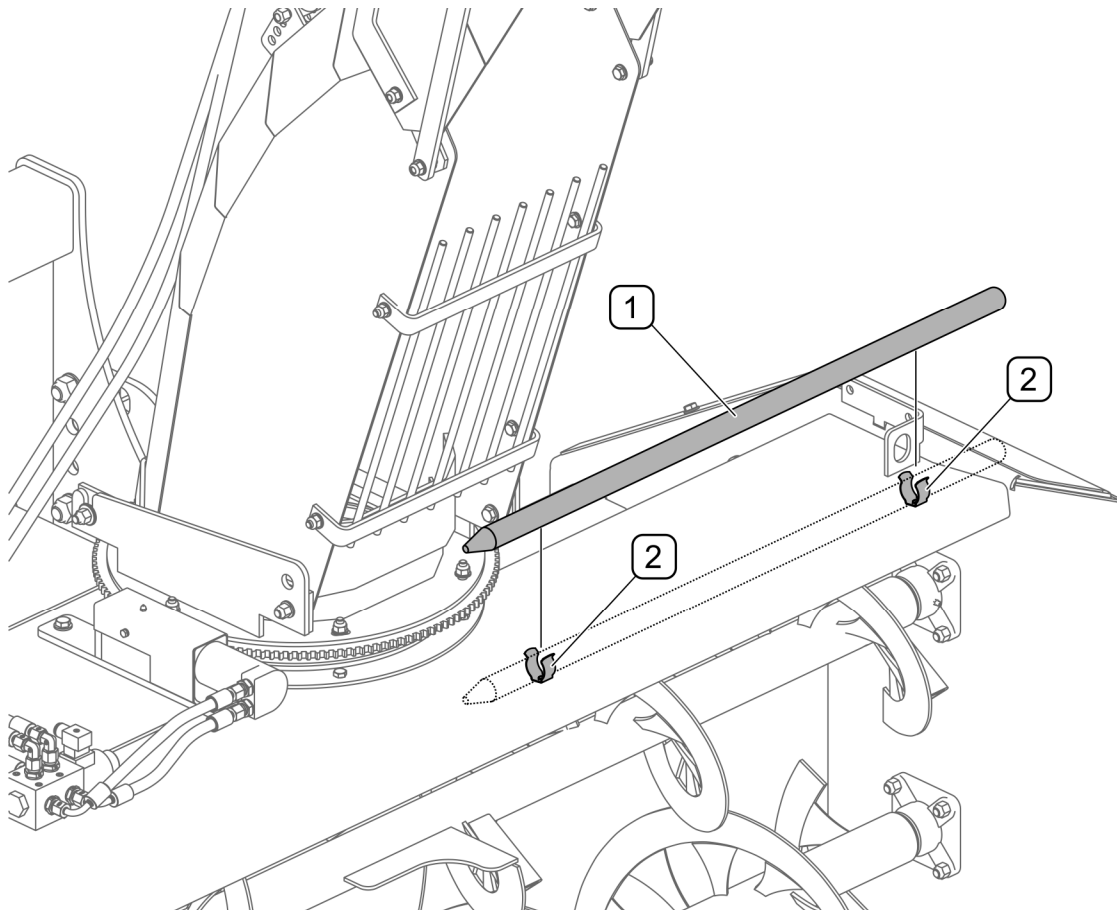

FIG. 4.11 **Removing blockages**
If the blockage is caused by the accumulation of snow, remove blockage using wood pin (1) supplied with the machine FIG. 4.11). Pin (1) is mounted in brackets (2) on the machine casing.